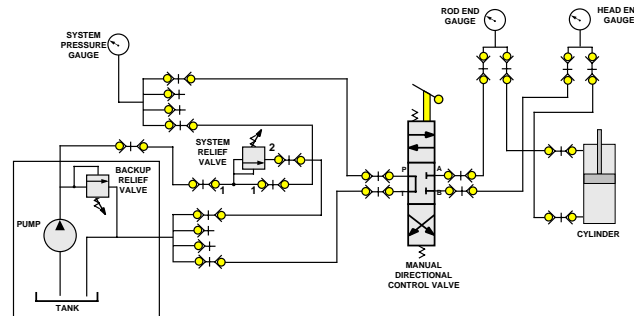

Fig. 3.5.25 Circuit
2. Construct the circuit in Figure 3.5.25.